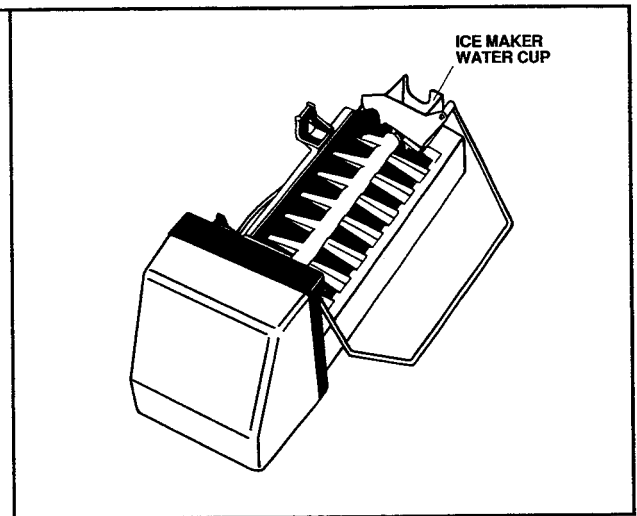

Figure 13
- b. Slip the stainless steel clip over the wall of the water cup. See Figures 13 and 14.